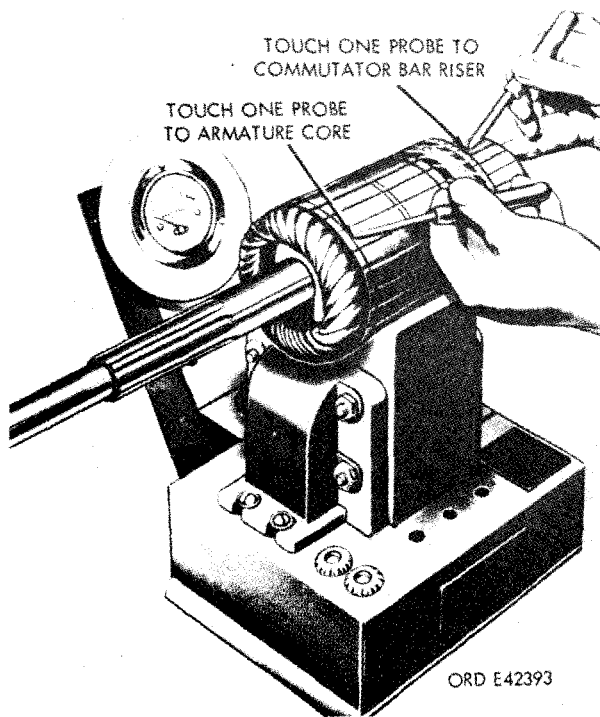

FIGURE 20. TESTING ARMATURE FOR GROUNDS.
- (1) Check armature shaft and commutator for conformity to wear limits (par. 41e). Replace the armature if worn beyond limits specified.
- (2) Inspect armature for grounds with a test light by touching one of the test probes to the armature core and the other probe to one of the commutator bar risers (fig. 20). Test all commutator bars in this manner. If the test light glows, the armature is grounded and must be replaced.